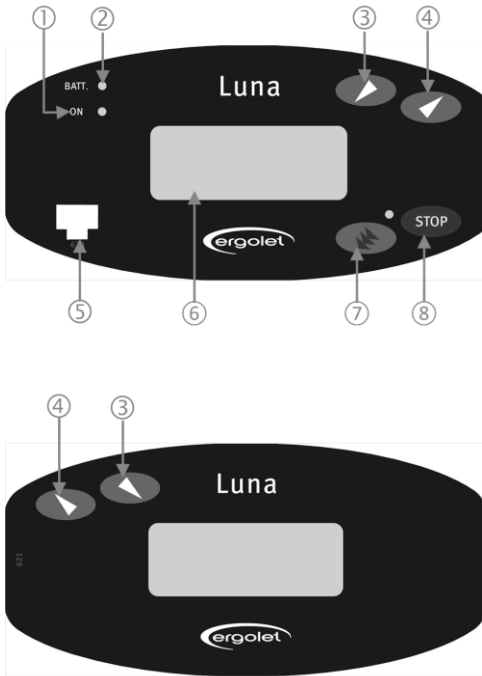

Fig 2.1
Connect the hand control to the plug inlet on the front panel, see fig. 2.1 (pos 5).